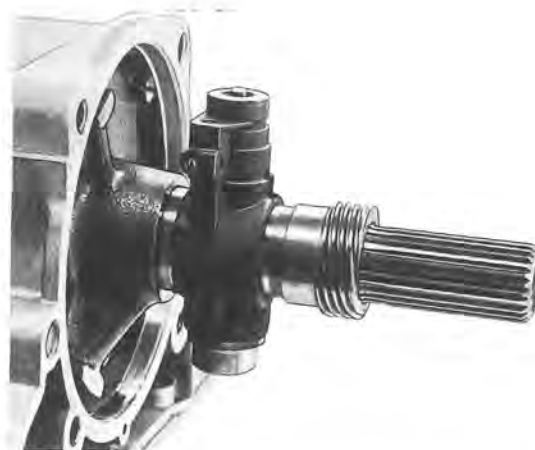

Fig. 4-118. Installing speedometer gear
21. Place the speedometer gear correctly on the driven shaft as shown in Fig. 4-118. Fit the extension housing with a new gasket and fit the drive flange with washer and nut.